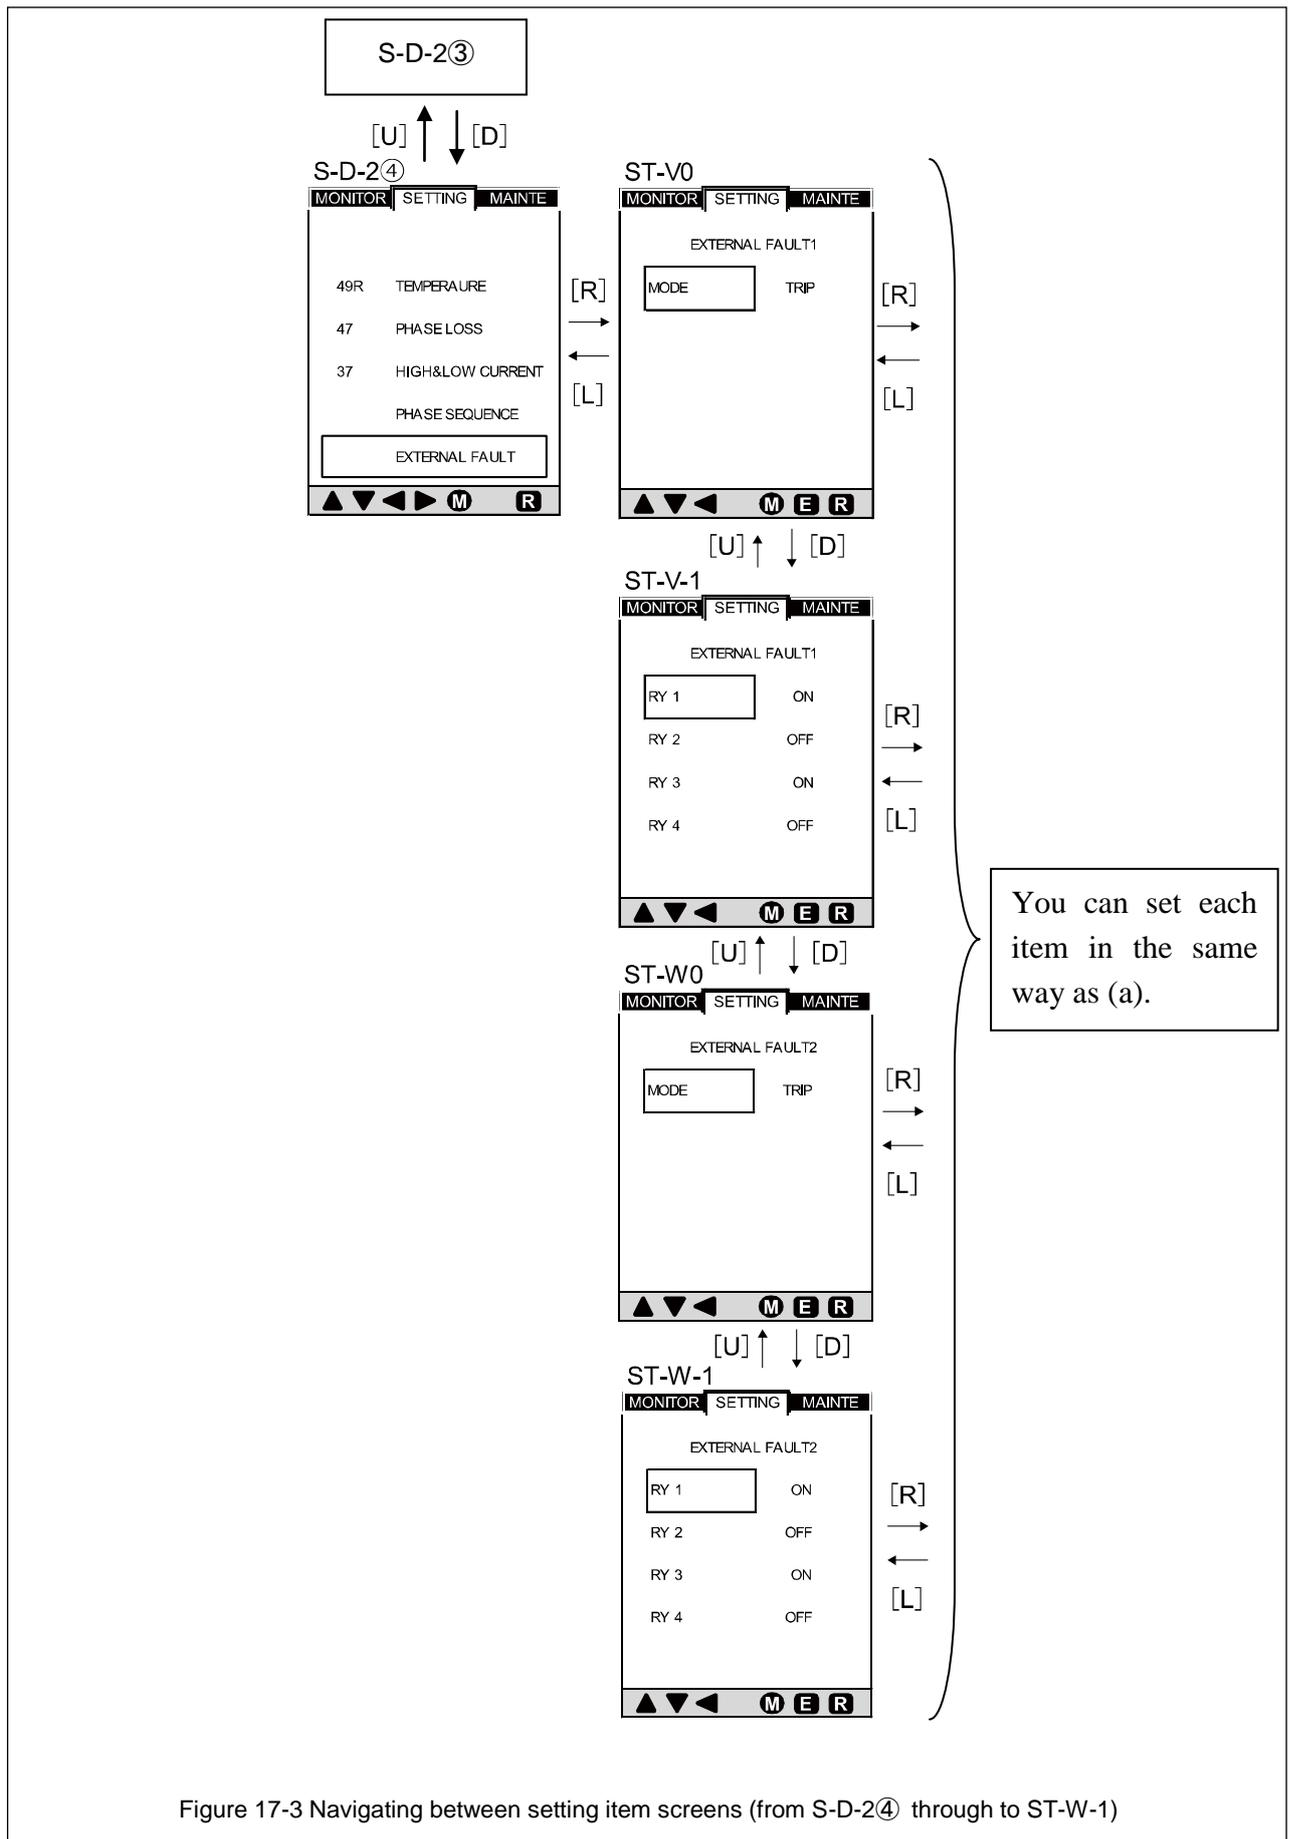

Figure 17-3 Navigating between setting item screens (from S-D-2④ through to ST-W-1)
Figure 17-3 shows how to navigate between setting item screens (from S-D-2④ through to ST-W-1). See Table 12-5 for items that are actually displayed on the screen.